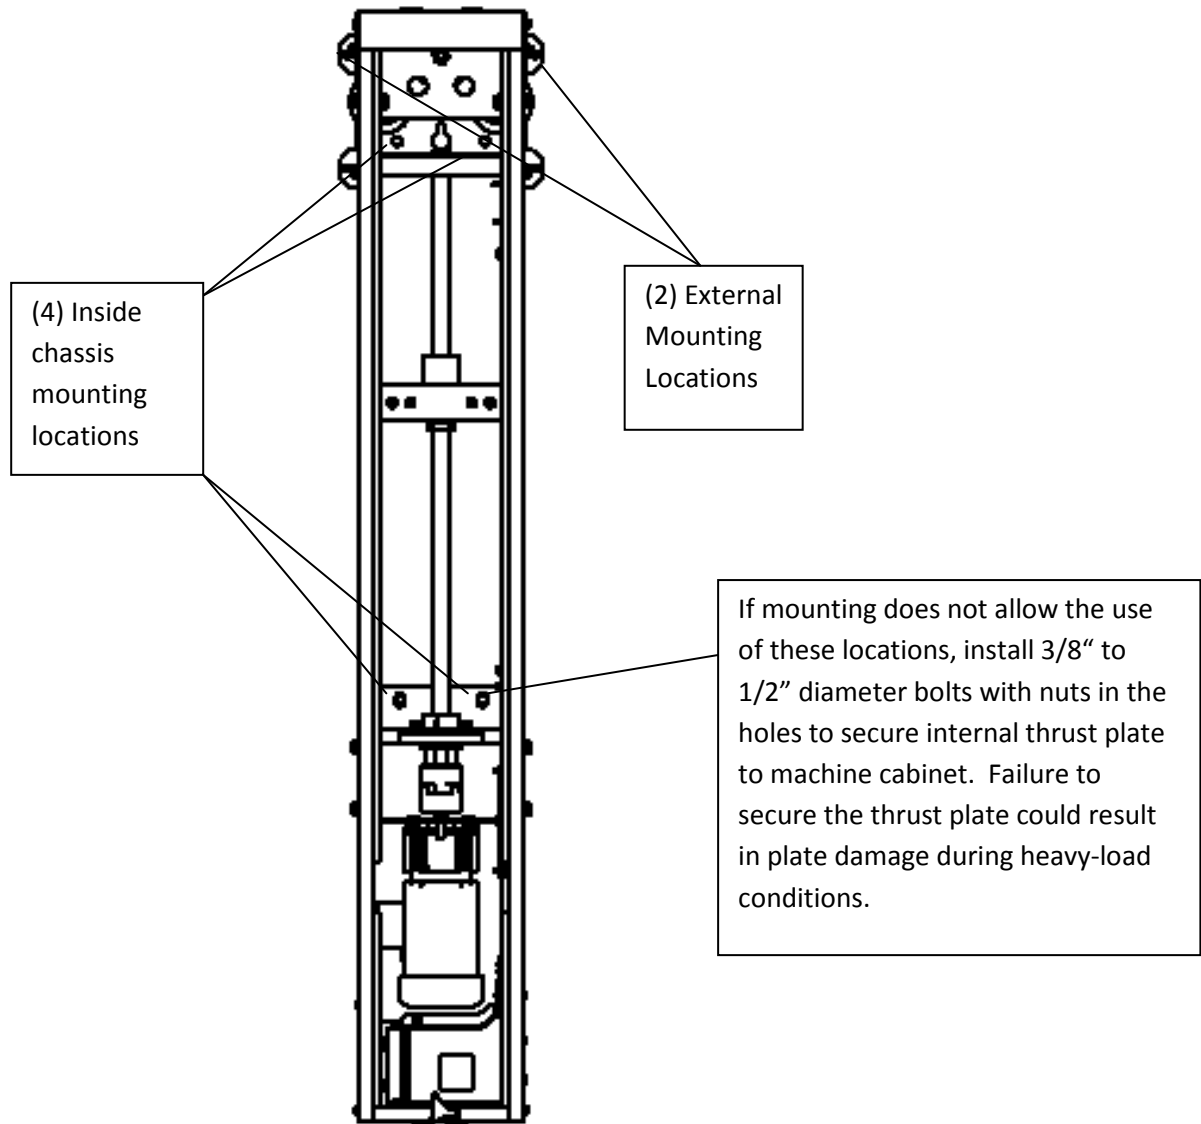

Figure 2
4. **DO NOT OPERATE MACHINE** while hanging on this bolt. Level machine and secure machine using **3/8" x 2"** Lag bolts (supplied) in the (6) mounting locations. (**Figure 2**)